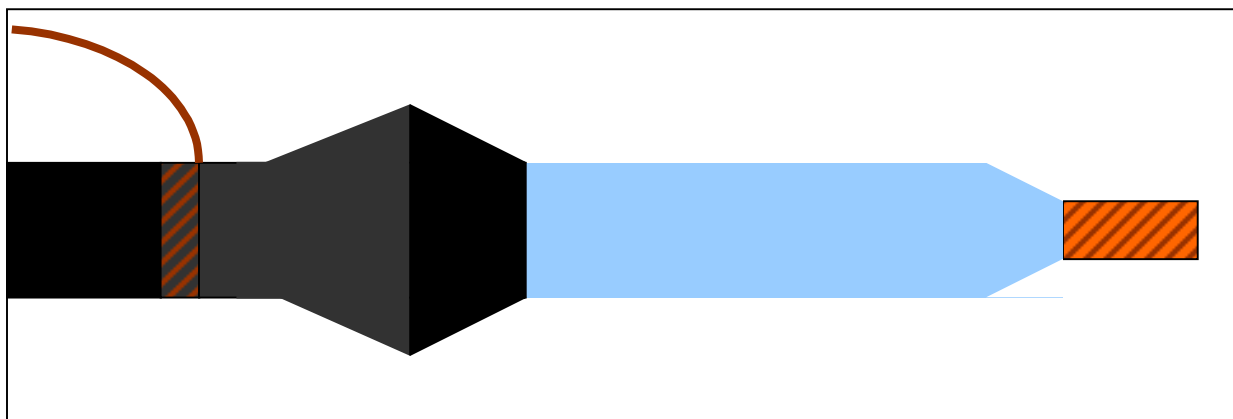

Figure 3, Stress Cone with Semi-Con on Bottom
- When the stress-cone is finished apply two layers of semi-conductive #13 tape. Start at the concentric neutral, half lap the layers to the under side of the stress-cone and return to the concentric neutral (Figure 3).